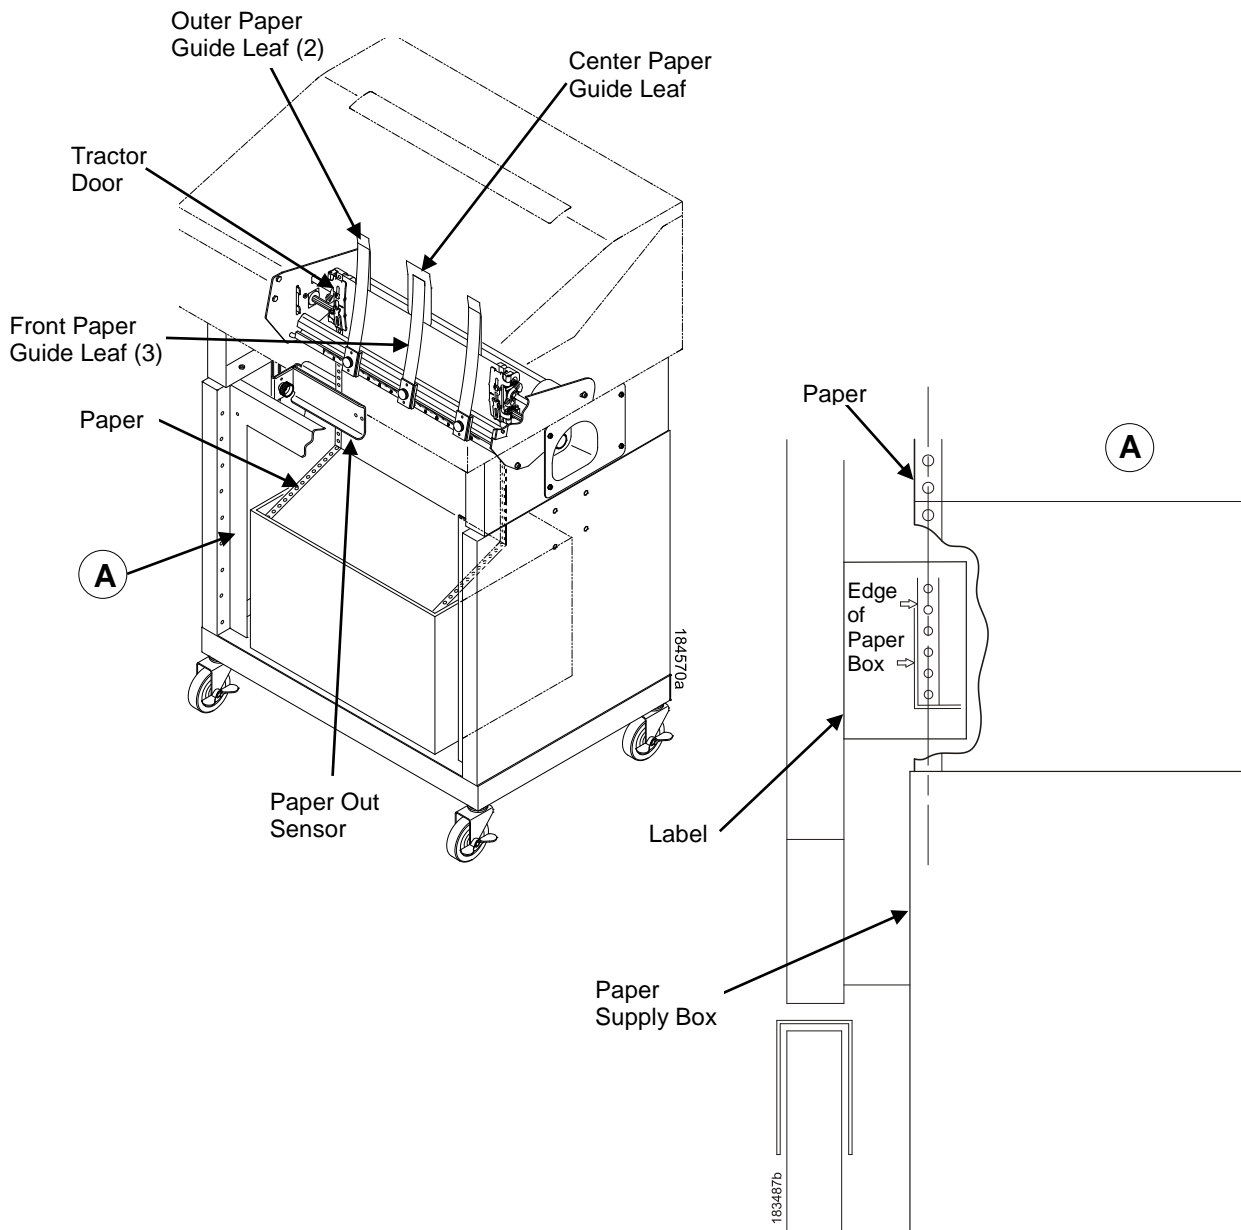
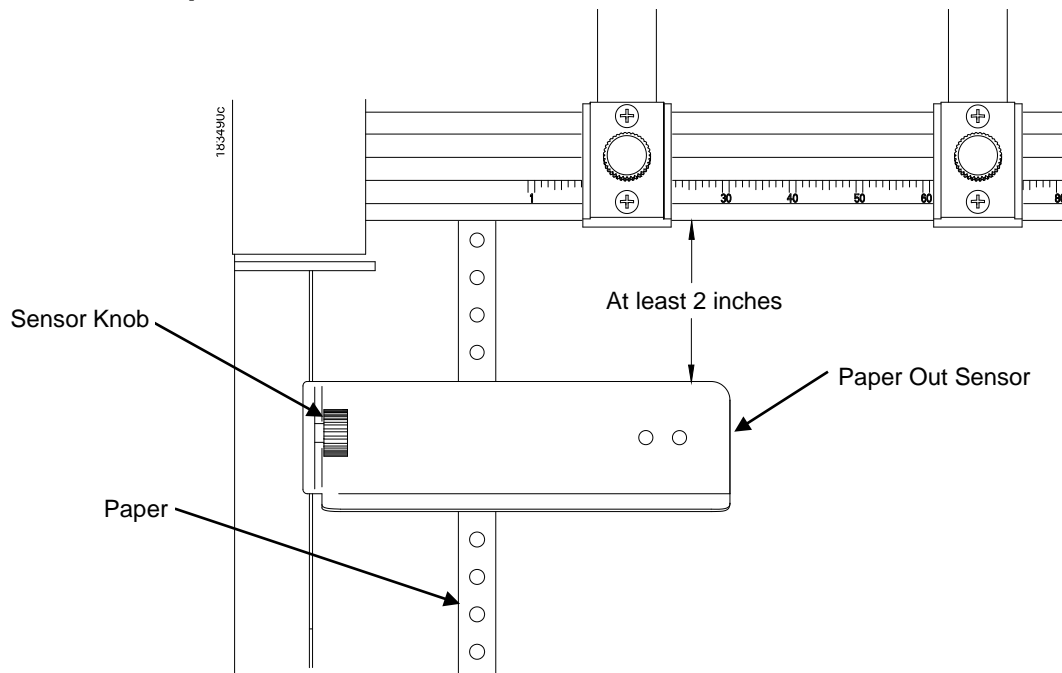

Figure 38 Loading Paper onto the Printer
Figure 41 The Paper Out Sensor
1. Align the paper supply box with the label on the left side of the floor. (See Figure 38 on page 151.)
The paper out sensor indicates when the printer runs out of paper. (The sensor does not work with black backed forms.) Unlike the standard pedestal printer, the ZTP printer requires you to load the paper through the paper out sensor slot (Figure 38 and Figure 41). Correct positioning of the paper out sensor ensures that the last form the printer prints will be properly presented to the tear bar. To position the paper out sensor, do the following: